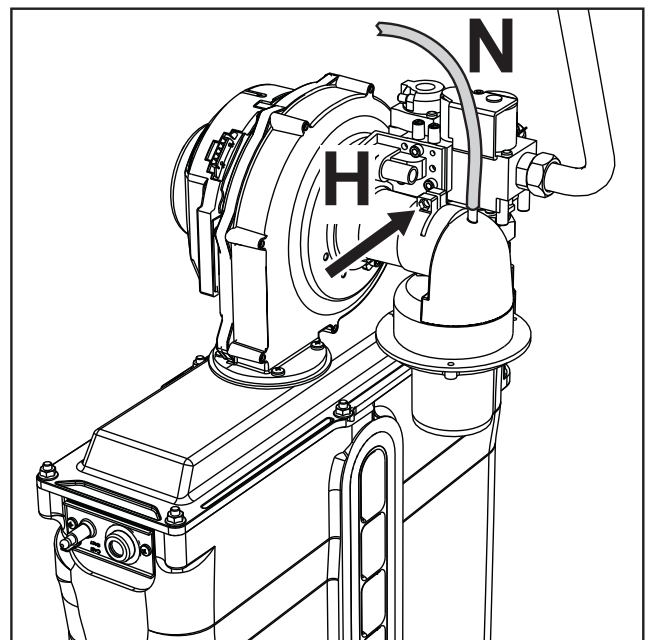

fig. 78
3. Remove the compensation tube “N” and loosen the screw “H” (see fig. 78).